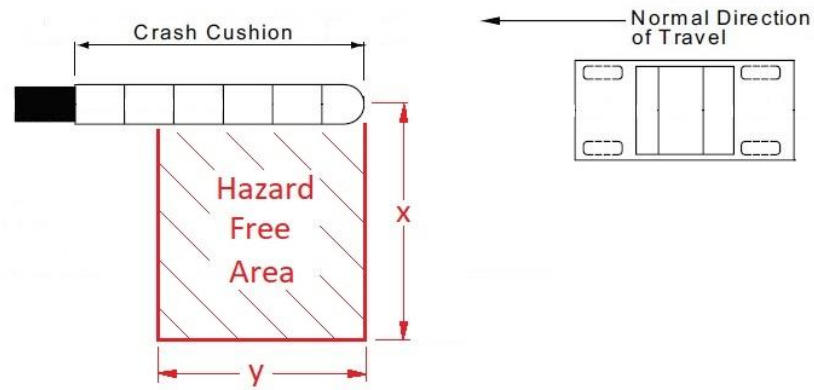

Figure 1: Hazard free area for crash cushion
- A hazard free area should be provided as shown in Figure 1.